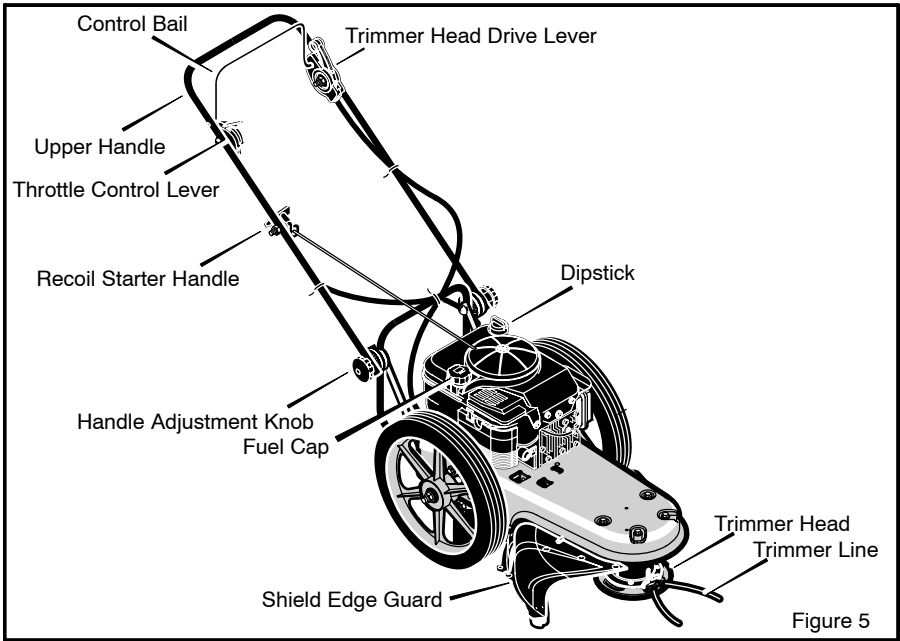

Figure 5
1. Before each use, remove debris from the **debris screen** shown in Figure 5. Debris can cause the engine to overheat. Wipe the **debris screen** with a cloth or paper towel.